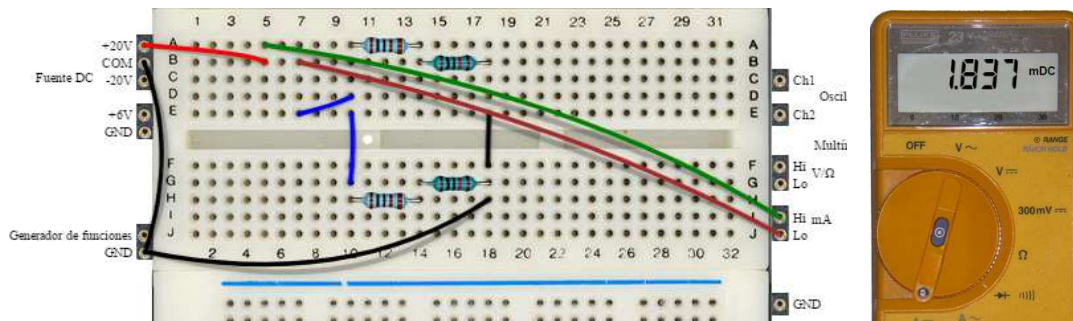

Figure 15. Input current measurement
- With the configuration shown at Figure 15 we can verify perfectly how the input current is equal to the sum of the current that flows through each of the other two branches of the circuit